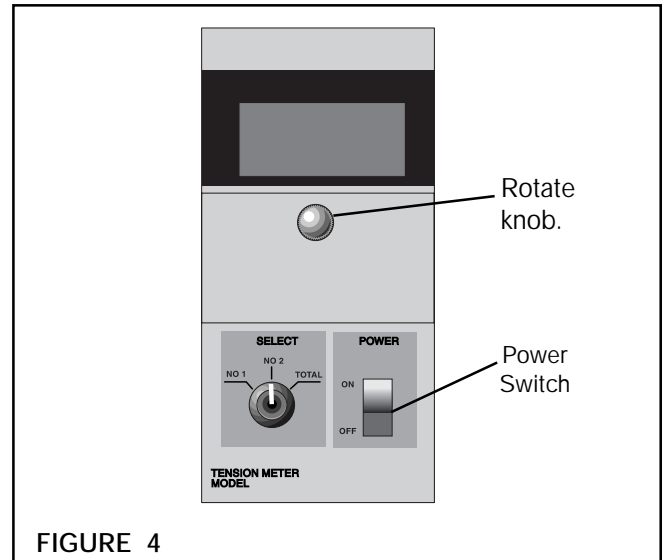

FIGURE 4
1. Set **Power Switch** to **ON** (See Fig. 4).
2. Rotate the knob in the upper portion of the Front Panel to release the catch, then open the Front Panel (See Fig. 4).
11. Set **Power Switch** to **OFF** (See Fig. 4).